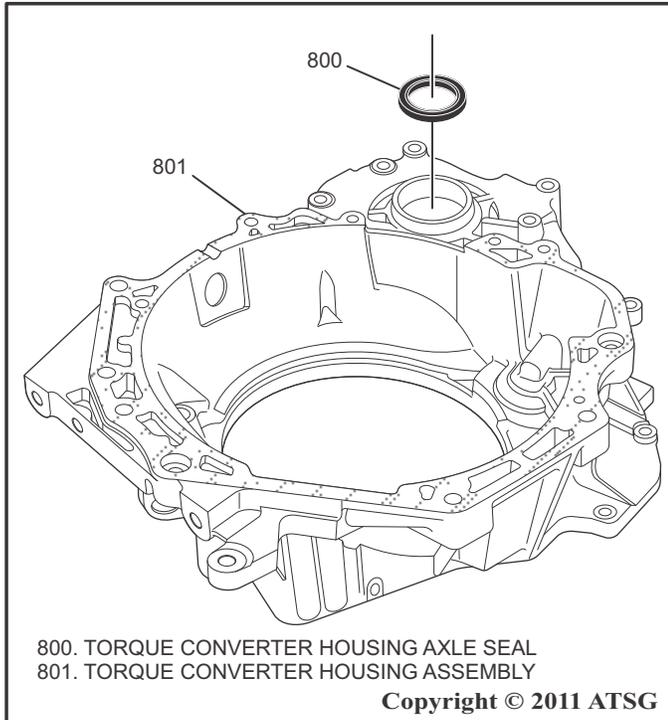

Figure 63
2. Using SST J45000 or other equivalent seal removal tool remove the torque converter housing axle seal from the torque converter housing as shown in Figure 63.